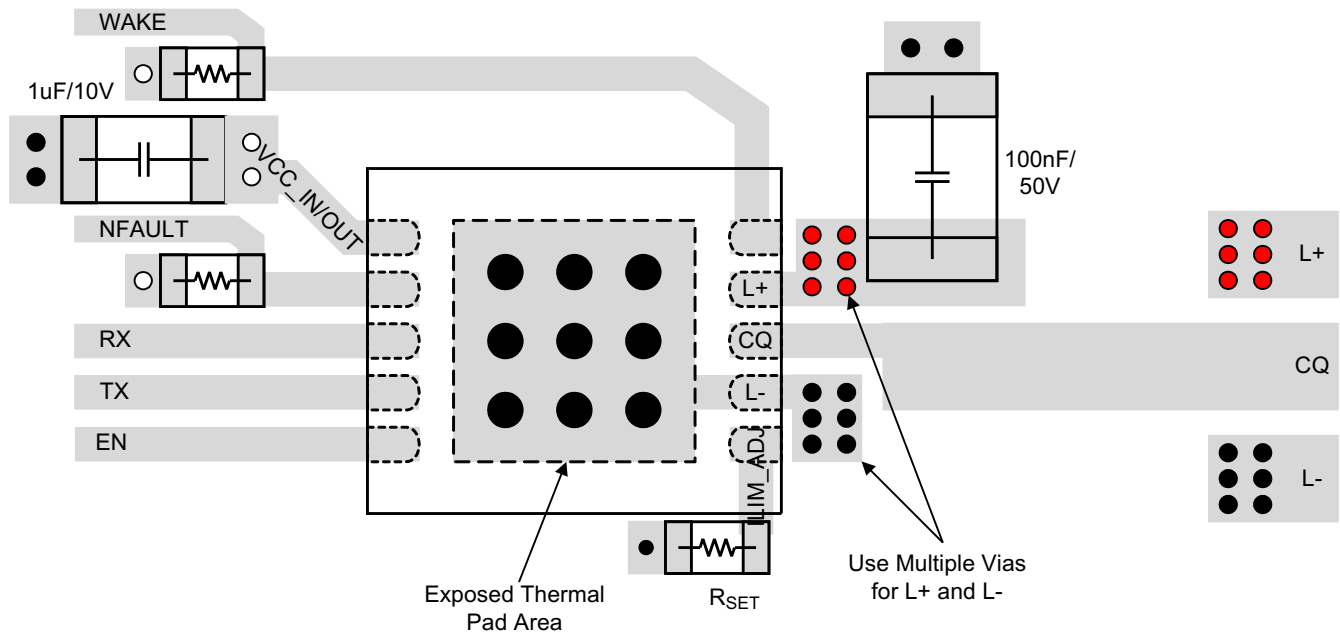

Figure 9-9. Layout Example
- The optimum placement of the capacitor is closest to the transceiver's L+ and L- terminals to reduce supply drops during large supply current loads. See Figure 9-9 for a PCB layout example.